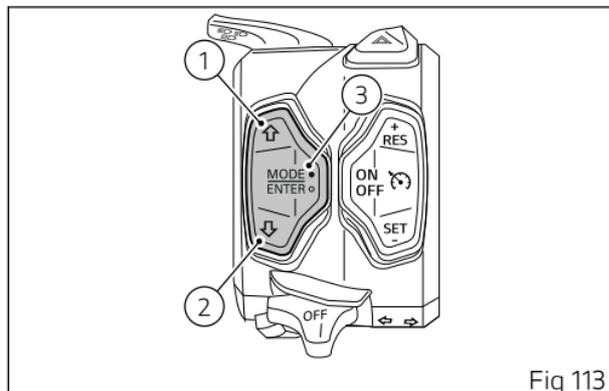

Fig 113
- Use buttons (1) and (2) to select item ABS (B, Fig 113) and press the ENTER button (3).